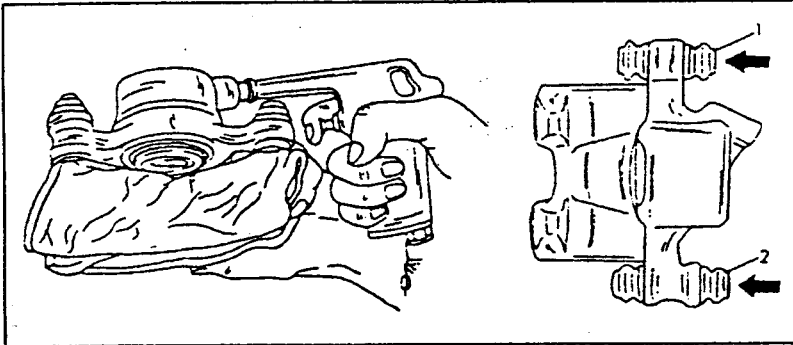

Fig. 13.5. — Removal of the piston with an air line (left) and the position of the rubber boot (1) and the rubber bush (2) in the caliper cylinder.
- To remove the piston apply an air line to the brake hose connecting bore, as shown in Fig. 13.5. Place a rag underneath the piston to prevent damage during ejection. Keep the hands away from the area below the piston. Do not use excessive air
- If the two rubber boots, shown in Fig. 13.5, are not